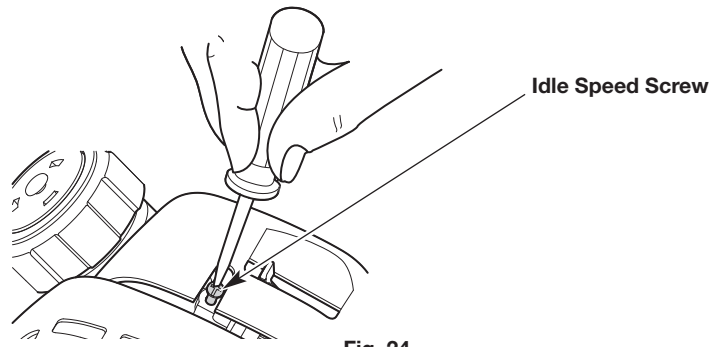

Fig. 24
- If the engine stops, use a small Phillips screwdriver to turn the idle speed screw clockwise, 1/8 of a turn at a time (as needed) until the engine idles smoothly (Fig. 24).
- If the engine idles too quickly, turn the idle speed screw counterclockwise, 1/8 of a turn at a time (as needed) to reduce the idle speed (Fig. 24).